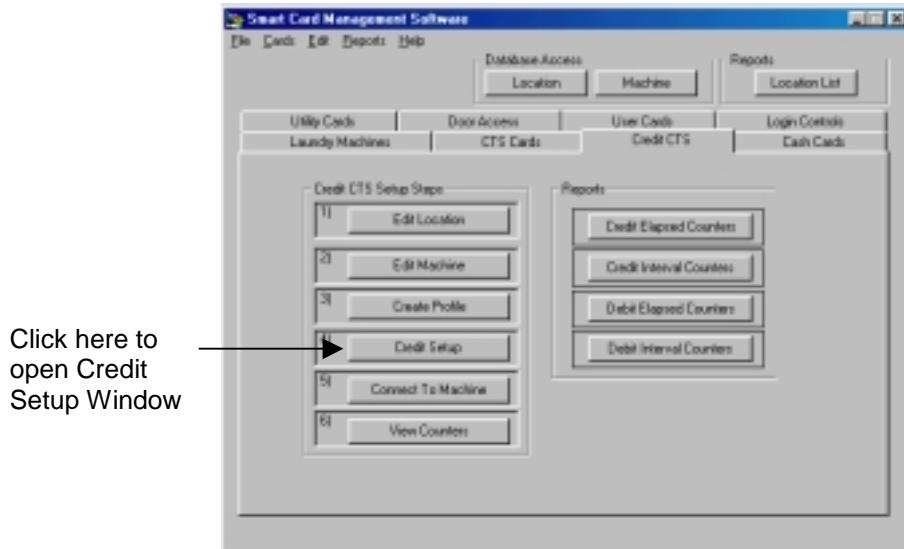

Figure 10.10 Opening the Credit Setup Window
1. Click the Credit Setup button in the Credit CTS tab (Figure 10.10).